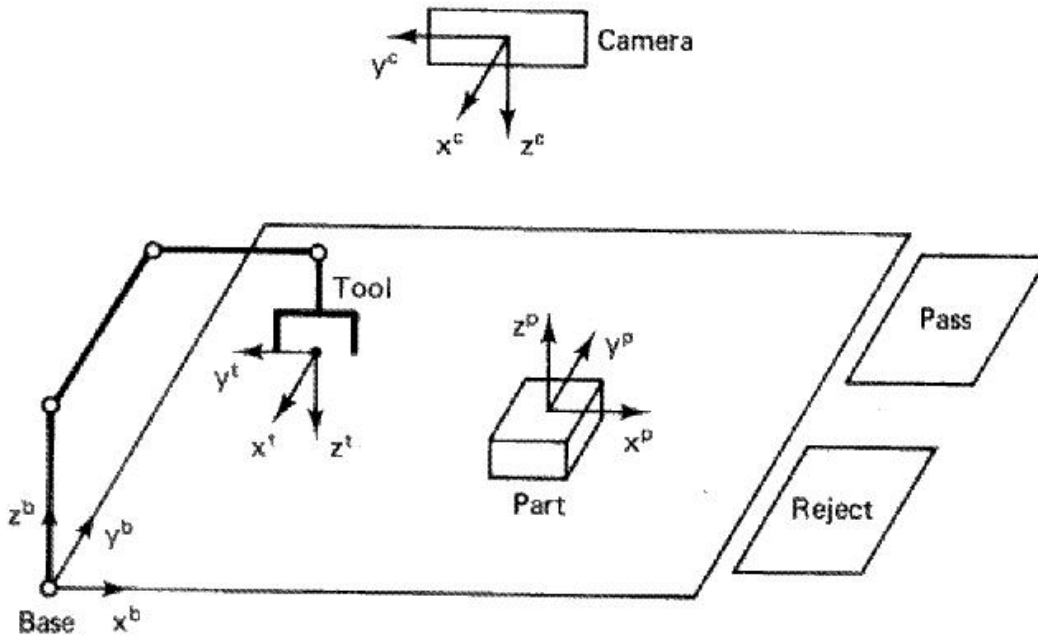

Figure 4: A robot workspace.
**Task 3.3 (8 points) Grasping from Camera:** Figure 4 shows the workspace of a robot manipulator. Objects transported on a conveyor belt are evaluated by the vision system (a camera) and based on the results of the evaluation the manipulator is used to place the object into either the "Pass" or the "Reject" area.